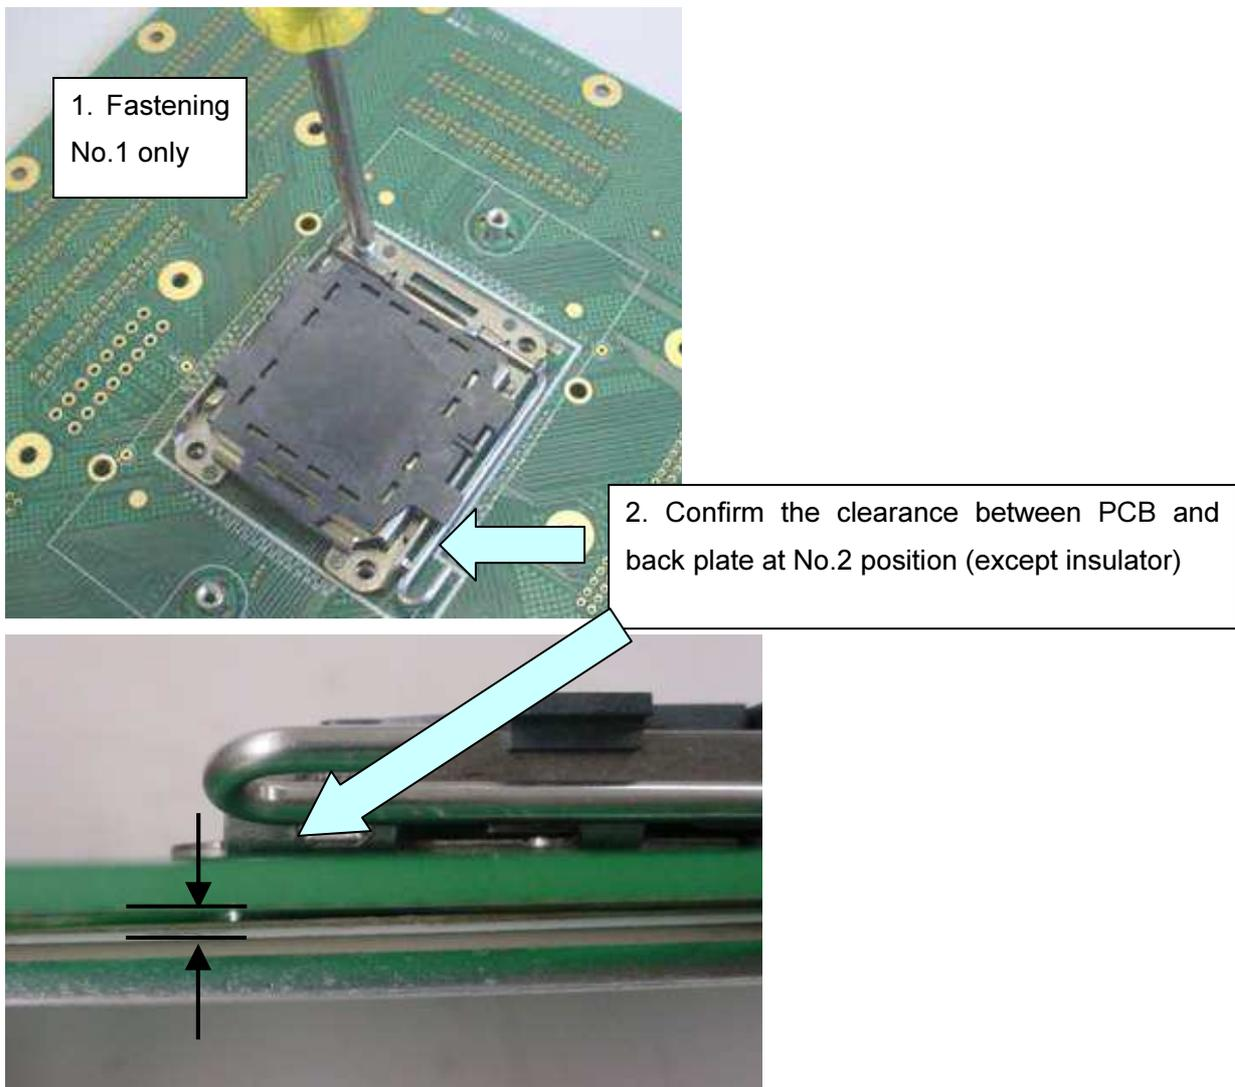

Fig 7 Confirmation of clearance between PCB and back plate
1. Fastening screw No.1 (top-left side) only (Fig 7)